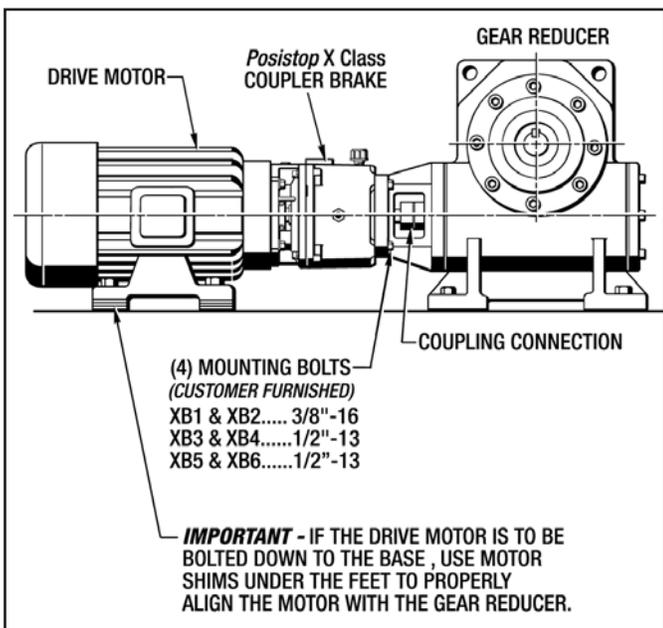

Figure 3.2 - Drive Motor & Gear Reducer Alignment
(See Figure 3.2)
- If the Drive Motor is to be bolted down to the base, use motor shims under the feet to correctly align the motor with the gear reducer as shown in Figure 3.2. **This is very important so the Coupler Brake will not be pulled down or pushed up during operation.**